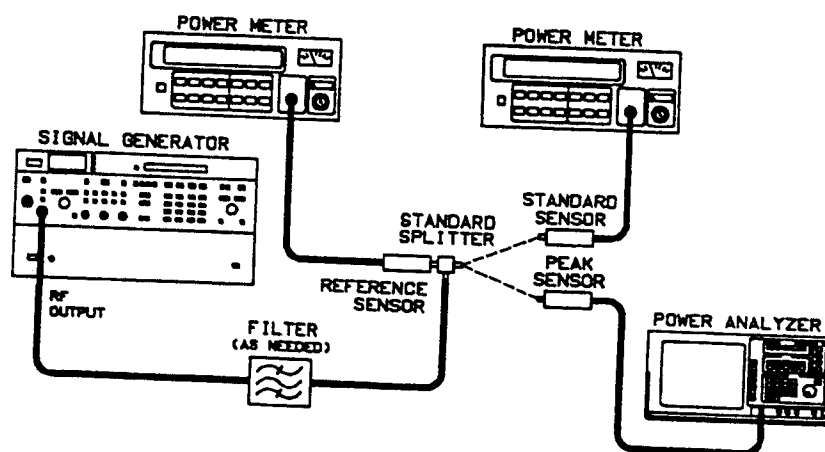

Figure 6-3. Power Level Measurement Setup
1. Set up your system as shown in Figure 6-3. Connect the STANDARD SENSOR (standards lab calibrated average power sensor) to the calibrated port of the splitter. The calibrated port is identified on the calibration report from the calibration lab.
7. Replace the standard power sensor and meter with the Peak Power Sensor to be calibrated and HP 8990A Peak Power Analyzer. Refer to Figure 6-3.